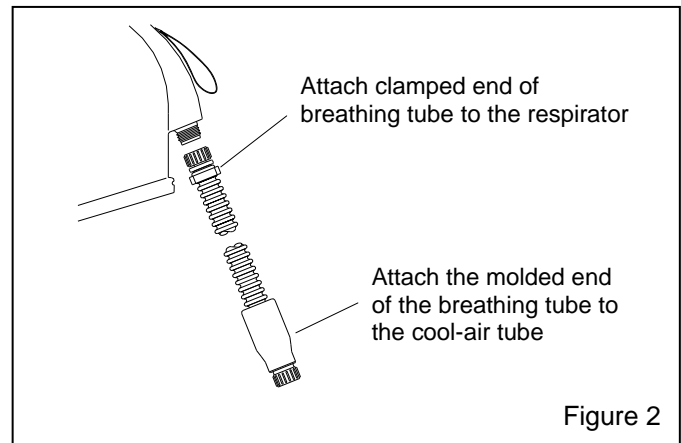

Figure 2
3.1.1 The breathing tube has a clamped-on end and a molded-on end. Attach the molded-on swivel connector to the cool-air tube's outlet as shown in Figure 2.
3.1.2 Attach the clamped-on end to the threaded air inlet fitting at the back of the helmet as shown in Figure 2. Do not over-tighten; hand-tight is sufficient.